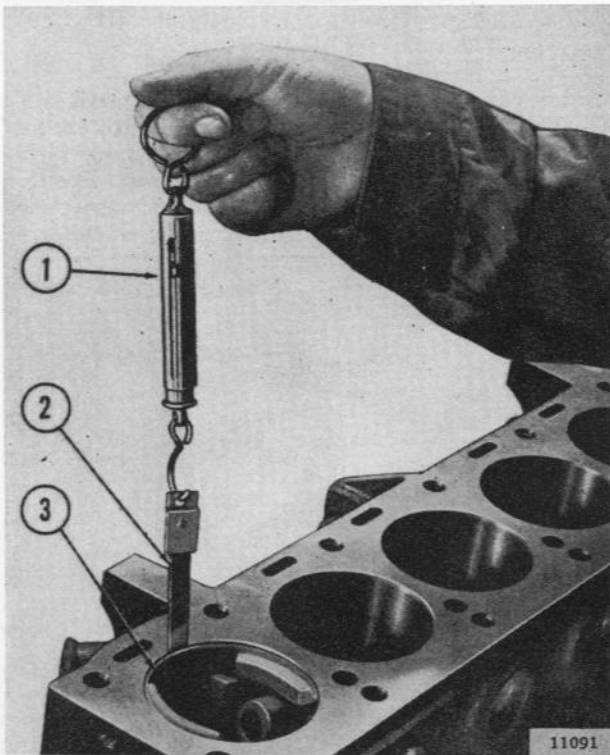

FIG. 90—FITTING PISTON IN CYLINDER BORE
**a.** Check fit of each piston to cylinder bore, when block and pistons are clean and dry and at approximately 70°F [21°C] by using piston fitting gauge and scale C-690 as shown in Fig. 90. Use a .004" [0,1016 mm.] thickness gauge ( $\frac{1}{2}$ " wide) [12.7 mm.] if old pistons are to be used. When fitting new pistons, use .0015" [0,0381 mm.] gauge. The piston is fitted upside down in the block to facilitate the operation, and the gauge must be extend the full length of piston on the thrust side (side opposite slot in piston skirt). Scale should register 5 to 10 pounds [2,26 a 4,53 kg.] pull to remove thickness gauge from between cylinder wall and piston. Excessive pull indicates need for a slightly smaller piston or additional honing of cylinder. Insufficient pull indicates need for fitting a larger piston.